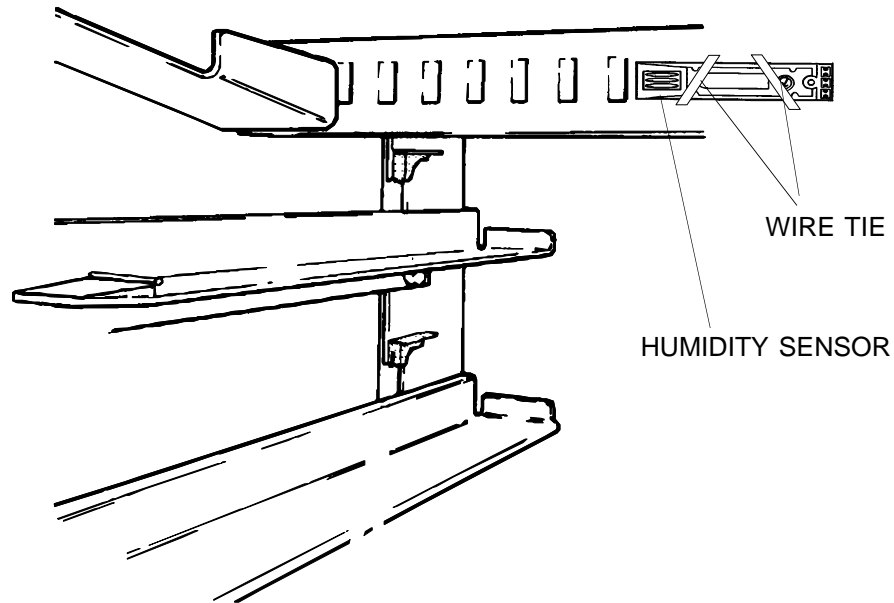
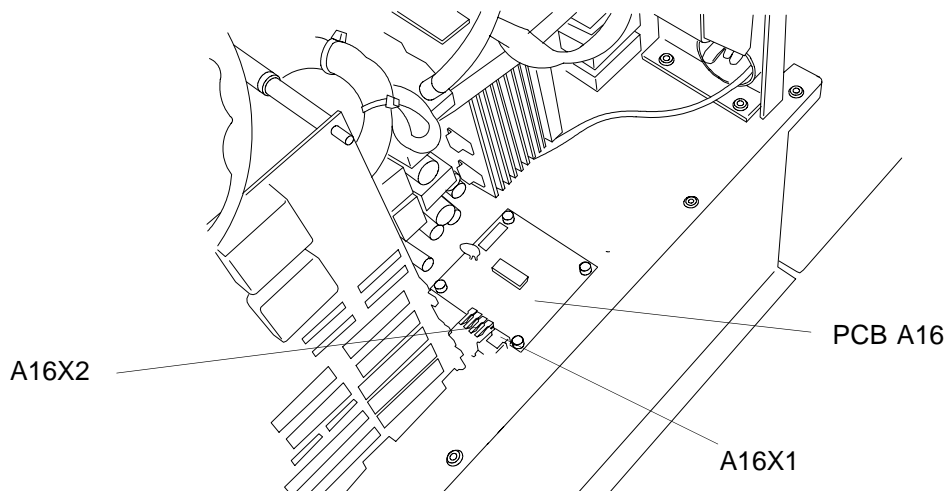

figure 2-2
figure 2-3
11. Connect HARNESS CONNECTOR A16P2 to CONNECTOR A16X2 on PCB A16. Fig. 2-3.
12. Connect the HUMIDITY SENSOR(fig. 2-2) to A16X1 on PCB A16. Fig. 2-3.